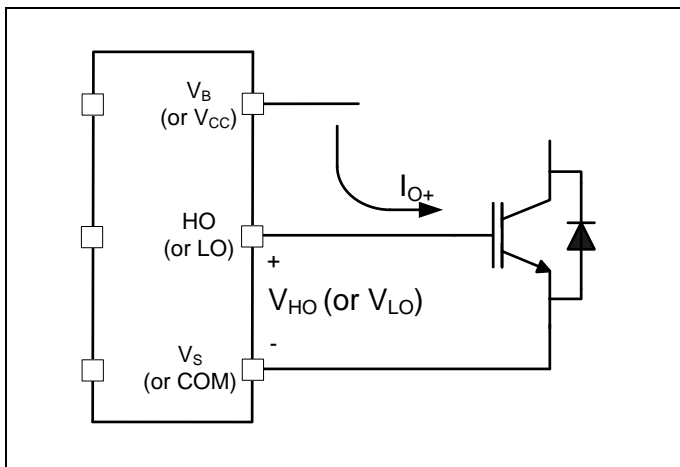

Figure 4 HVIC Sourcing current
The 2ED2182 (4) S06F (J) HVIC is designed to drive MOSFET or IGBT power devices. Figures 4 and 5 illustrate several parameters associated with the gate drive functionality of the HVIC. The output current of the HVIC, used to drive the gate of the power switch, is defined as I_O . The voltage that drives the gate of the external power switch is defined as V_{HO} for the high-side power switch and V_{LO} for the low-side power switch; this parameter is sometimes generically called V_{OUT} and in this case does not differentiate between the high-side or low-side output voltage.